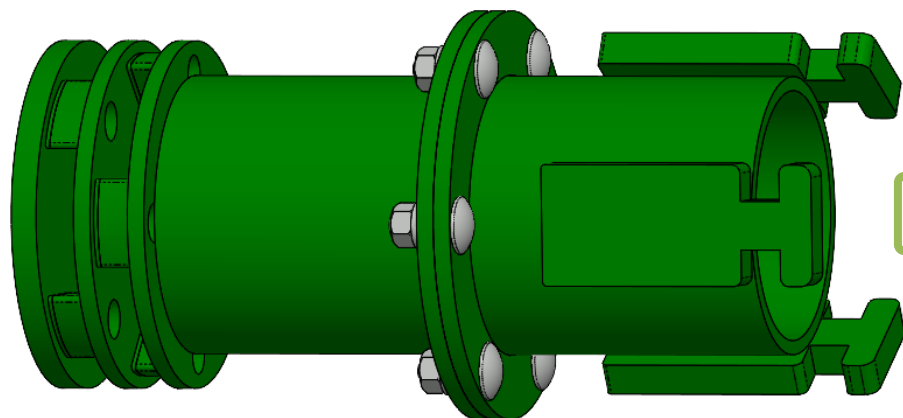

Figure 1
Refer to Figures 1—3
1. The FSR can be assembled in (2) different ways, depending on the depth it needs to reach.
2. Figure 1 shows the most common configuration.